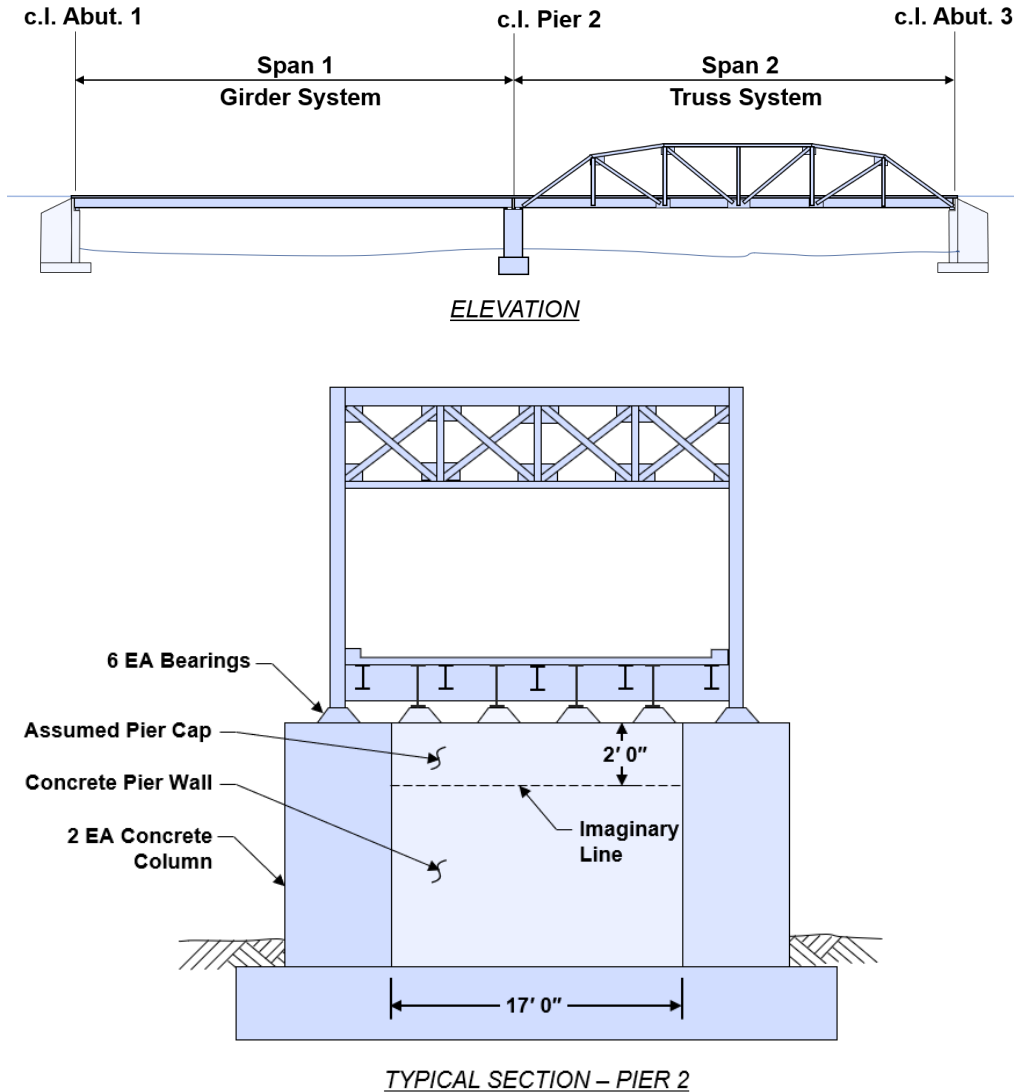

Figure B9-1B—Elevation View and Typical Section (Pier 2) for Girder/Truss Bridge with Pier Cap Example
The subject of this example is a Girder/Truss bridge with two (2) main support columns and a pier wall at Pier 2. This example illustrates the determination of a pier cap at Pier 2, as specified per 3.2.6.8. The sketch in Figure B9-1B shows bridge elements with relevant dimensions.